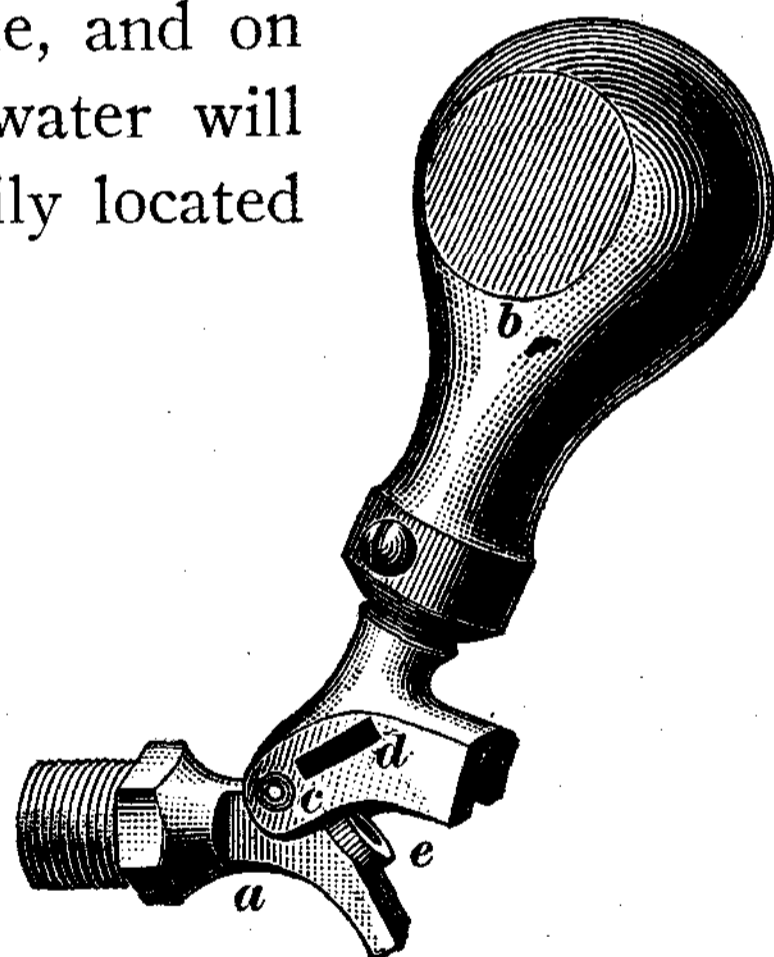

FIG. 11
20. A weighted gauge-cock, known to the trade as a Register pattern cock, is shown in Fig. 11. It consists of a body *a* having a threaded shank for attaching it to the boiler or water column. The weight *b* is pivoted at *c* to the body, and when down presses a strip *d* of soft-rubber packing against the face of the opening at *e*. The cock is opened by lifting the weight slightly, and the issuing steam or water is deflected downwards by the curved end wall of the slot. In order to show the construction clearly, the weight is shown raised to the full limit. The strip of soft-rubber packing is simply pushed through two opposite slots. It must be renewed quite frequently, as it rots under the high temperature to which it is subjected.